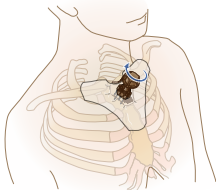

FIGURE 10
d. Stop insertion process upon entry into the medullary space and a click is felt or heard as the Needle Set hub locks into the Sternal Locator hub. (See Figures 10 and 11)